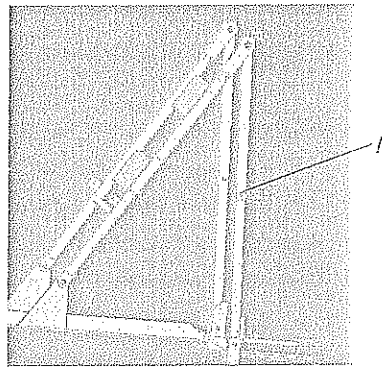

Figure 6-2
(3) Keep the engine run at low speed and lift the luffing steel rope of the boom gradually. Meanwhile, A-frame also rises until reaching the top point.
(4) Insert pin into the hole at A (see Figure 6-2). Then A-frame is ascended.